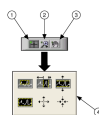

Figure 5.14: 1. Cursor Movement Tool, 2. Zoom Button, 3. Panning Tool, 4. Zoom Pull-down Menu
5. Right-click the waveform chart and select **Visible Items**»**Graph Palette** from the shortcut menu to display the graph palette, as shown in Figure 5.14. You can place the graph palette anywhere on the front panel.